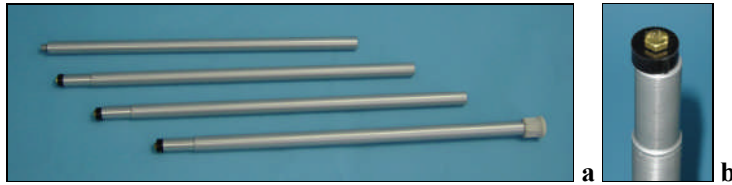

Figure 2. Sensor staff sections.
Assembly of the magnetometer is quite simple. Proceed as follows referring to Figure 2 through Figure 8.
- 1) Assemble the staff by inserting each section into the next twisting them until they are locked. As shown in Figure 2a, there are four staff sections. The section with the rubber tip is the bottom section and the section with the threaded end is the top section. Figure 2 b shows the cam-lock end of the staff section. This end is inserted into the open end of the matching section. Twisting the jointed sections by $\frac{1}{4}$ turn will lock them together.